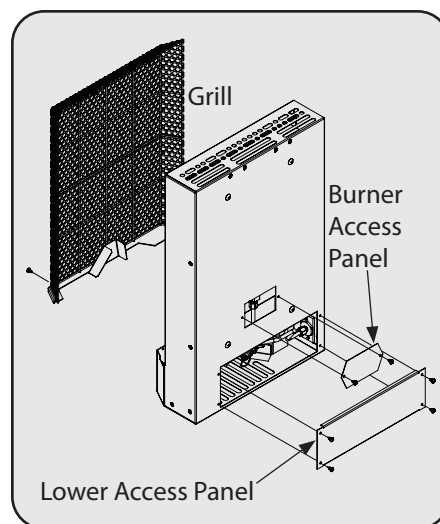

Figure 7
4. Remove the access panel at the lower back of the heater by removing the (4) access panel screws. See Figure 7. Remove the burner access panel by removing the (2) burner access panel screws.
5. Remove the (2) two screws at the bottom of the grill that secure the grill bracket to the main enclosure of the heater. See Figure 7.